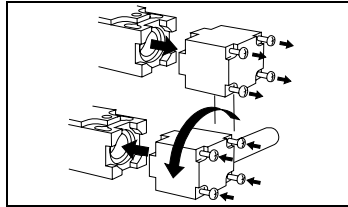

Fig. 1: Change actuator entry direction
- Tighten screws to 0.4 Nm (Fig. 1).